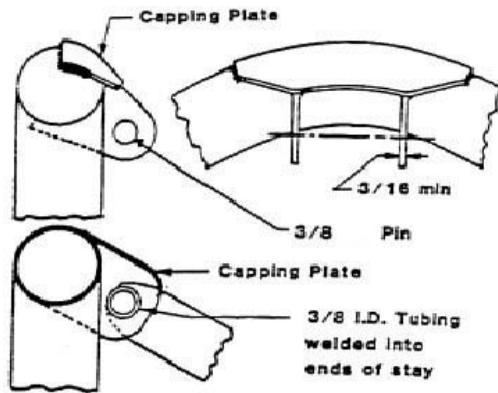
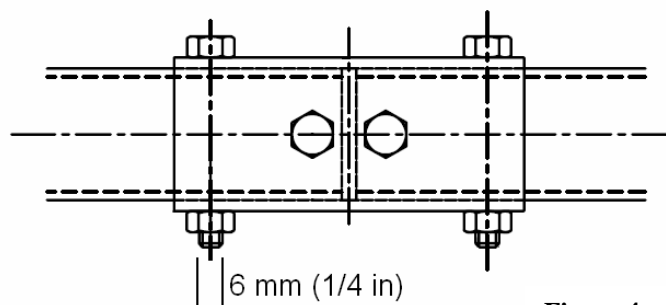

Figure 2
Figure 4
- (A) Roll Hoop bracing may be removable. Any non-permanent joint must be either a double-lug joint as shown in Figures 2 and 3, or a sleeved butt joint as shown in Figure 4. The threaded fasteners used to secure non-permanent joints are considered critical fasteners and must comply with paragraph 3.7.2.2. No spherical rod ends are allowed.
- (B) For double-lug joints, each lug must be at least 4.5 mm (0.177 in) thick steel, measure 25 mm (1.0 in) minimum perpendicular to the axis of the bracing and be as short as practical along the axis of the bracing. All double-lug joints, whether fitted at the top or bottom of the tube, must include a capping arrangement (Figures 2 & 3). The
REMOVABLE ROLL BAR BRACES ATTACHMENT DETAILS (FIGURES 2, 3 & 4)